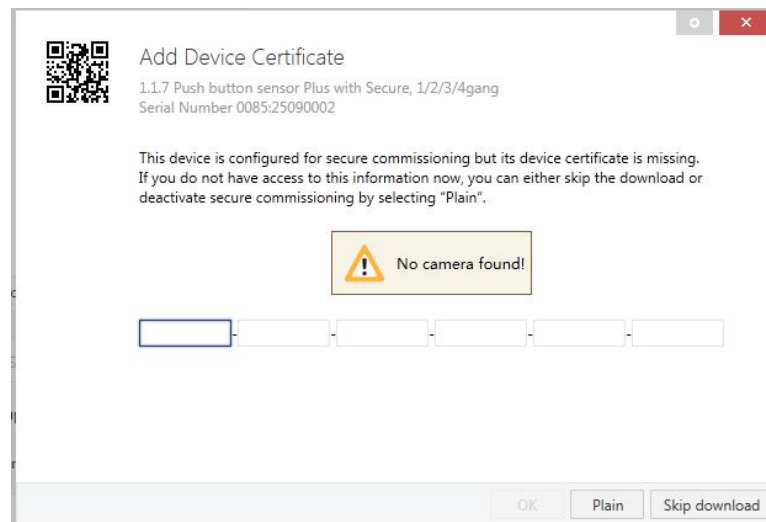

Fig.4.3.1 Add Device Certificate window
- ❖ On the first download of the device, a window pops up in the ETS to prompt the user to enter the key, as shown in Figure 4.3.1 below. The certificate can also be read from the device using a QR scanner (recommended).